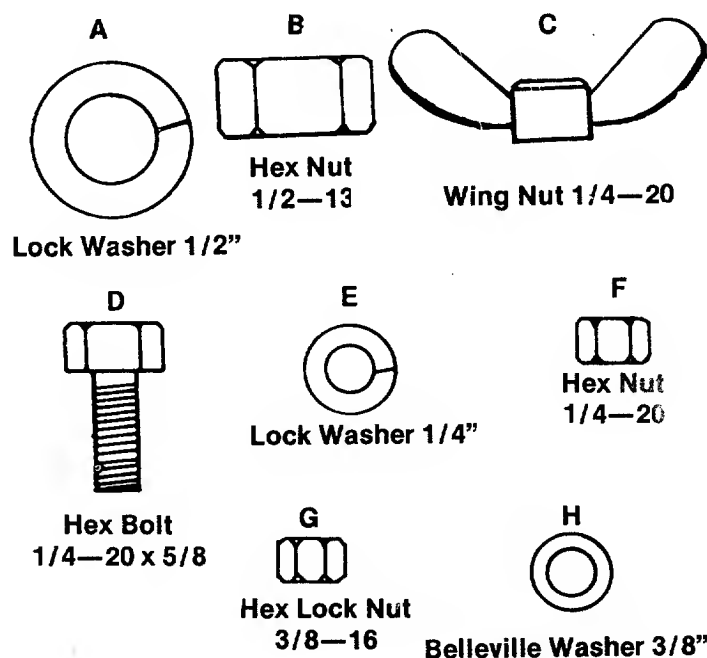

FIGURE 1. HARDWARE SUPPLIED
- B. Place seat on spring and secure with lockwasher (A) and hex nut (B). See figures 1 and 3.